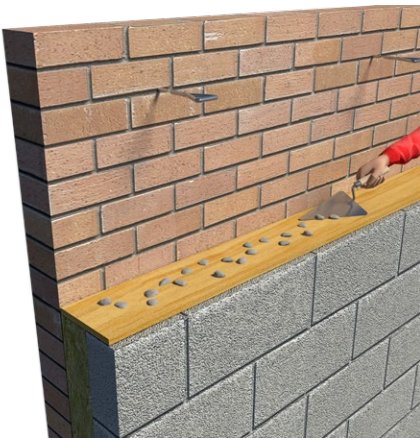

Figure 1
- 3.** Build up a complete section of the leading leaf to one course above the next row of wall ties spaced at a maximum of 900mm horizontally (Figure 1). Ensure that all mortar joints are properly filled, particularly the perpend.